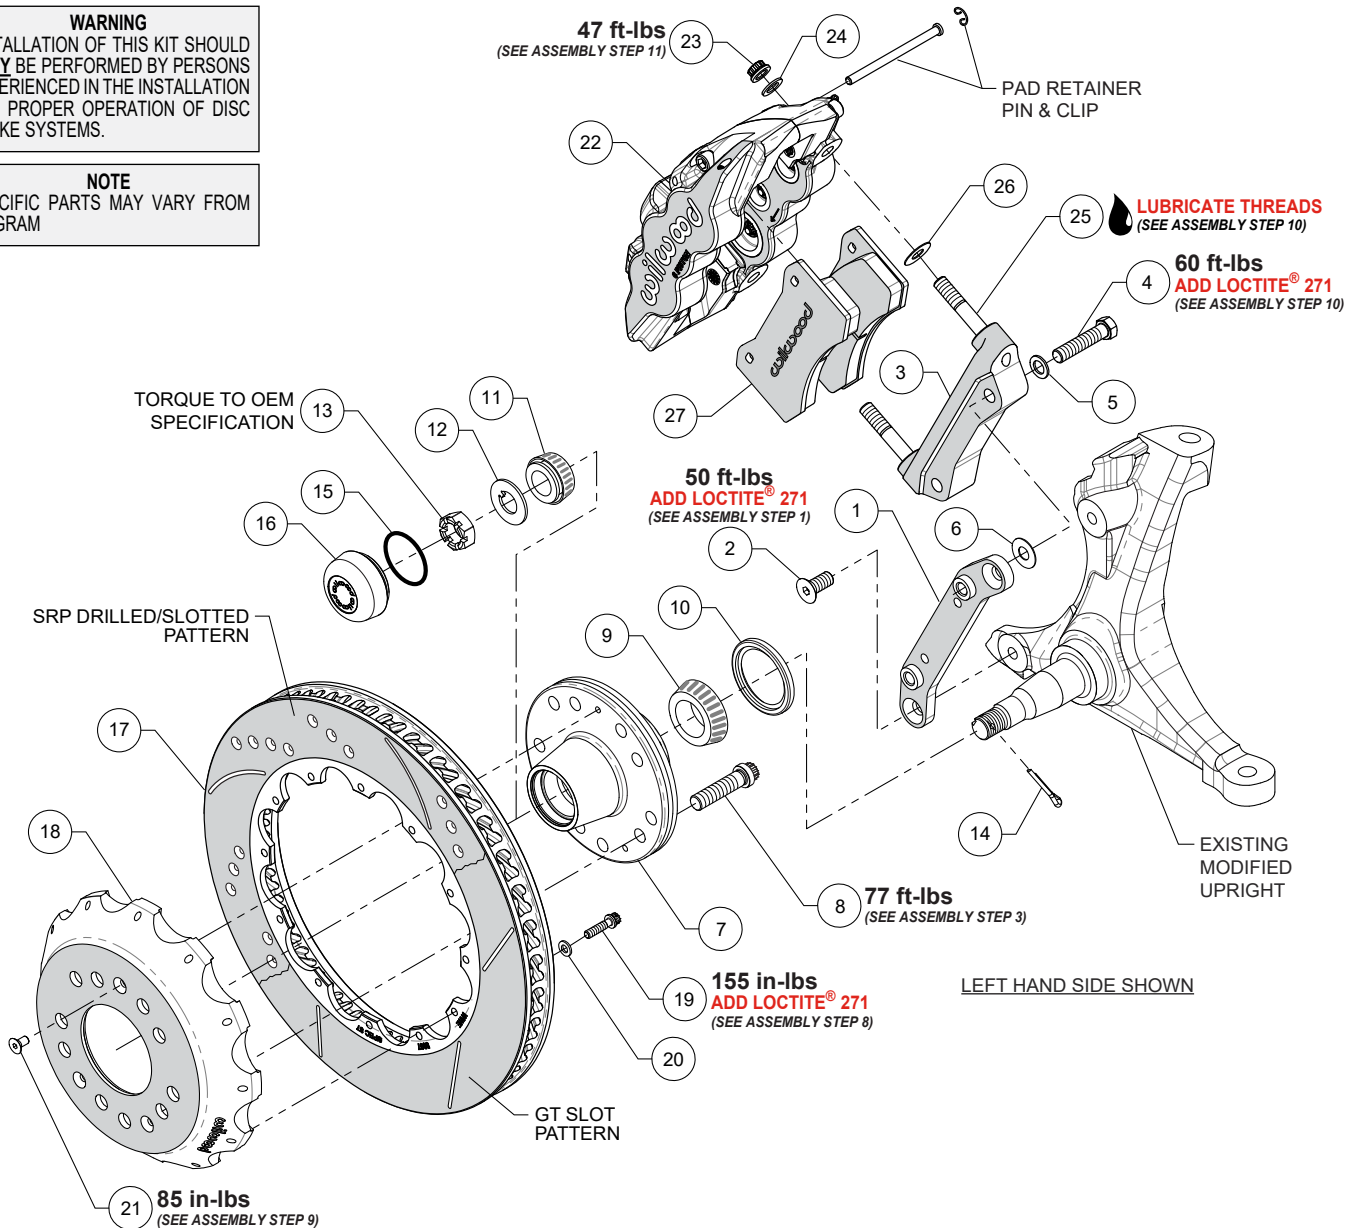

Figure 2. Typical Installation Configuration
**NOTE:** Numbers in parenthesis refer to the parts list and Figure 2 on the preceding pages.
**STEP 1** Orient the caliper mounting flat bracket (1) as shown in Figure 2 and install using bolts (2), Photo 1. **NOTE:** Be sure the heads of the caliper mounting flat bracket clinch nuts (1) are facing outward toward the wheel. Temporarily tighten the mounting bolts. **NOTE:** The bracket must fit squarely against the mount bosses on the upright. Inspect for interference from casting irregularities, machining ridges, burrs, etc. After the bracket fitment has been checked, remove the bracket mounting bolts (2) one at a time, apply red *Loctite*® 271 to the threads and torque to value shown in Figure 2.
**STEP 2** The radial mount caliper bracket (3) should initially be installed with clean, dry threads on the mounting bolts. Orient the bracket, as shown in Photo 2, and install using bolts (4) and washers (5). Initially place one .030" thick shim (6) on each bolt between the radial mount caliper bracket (3) and caliper mounting flat bracket (1), Figure 2. Temporarily tighten the mounting bolts. Later, after the
**STEP 3** Install wheel studs (8) into the hub (7), Photo 3. Torque to value shown in Figure 2. **NOTE:** There are two five lug patterns in the hub (5 x 4.75 and 5 x 5.00). Ensure the correct hub stud pattern is being used to fit the wheel application.
**STEP 4** Pack the large inner bearing cone (9) with high-temp disc brake bearing grease (available from your local auto parts store) and install into the backside of the hub (7), Figure 2.
**STEP 5** Install the grease seal (10) by pressing into the backside of the hub (7), flush with the end of the hub, Photo 4.
**STEP 8** Orient the rotor (17) and the hat (18) as shown in Figure 2 and Photo 6. Attach rotor to hat using bolts (19) and washers (20). Apply red *Loctite*® 271 to the bolt threads and torque to value shown in Figure 2 using a criss-cross pattern. For an added measure of security, the bolts may be safety wired using standard 0.032 inch diameter stainless steel safety wire as shown in Figure 5. Refer to Wilwood's data sheet DS-386 (available at [www.wilwood.com/Pdf/DataSheets/ds386.pdf](http://www.wilwood.com/Pdf/DataSheets/ds386.pdf)) for complete safety wire installation instructions.
**STEP 9** Slide the rotor/hat assembly (17 and 18) onto the hub (7) taking care to align the small countersunk holes in the hat with the small threaded holes in the hub, Photo 7. **NOTE:** The hat must fit flush against the hub face or excessive rotor run out may result. Install three flat head hex drive screws (21) through the small holes in the hat, Photo 8, and torque to value shown in Figure 2.
**STEP 10** **NOTE:** This kit contains distinct right and left hand calipers that must be mounted in a specific direction, as described in below. Lubricate the caliper mounting studs (25) with lightweight oil. Initially place one .030" thick shim (26) on each stud between the caliper and the radial mount caliper bracket, as shown in Figure 2 and Photo 9. Mount the caliper (22) onto the radial mount caliper bracket (3) using lock nuts (23) and washers (24), Figure 2. Ensure that the caliper is mounted so the largest pistons are at the rotor exit end of the caliper, in relation to the forward direction of rotor rotation. Temporarily tighten the lock nuts and view the rotor through the top opening of the caliper. The rotor should be centered in the caliper, Photo 10. If not, adjust by adding or subtracting .030" shims (6) as necessary between the radial mount caliper bracket (3) and the caliper mounting flat bracket (1). Always use the same amount of shims on each of the two mounting bolts (4). Once the caliper alignment is correct, remove the radial mount caliper bracket bolts (4) one at a time, apply red *Loctite*® 271 to the threads, and torque to value shown in Figure 2.
**STEP 11** Remove the caliper (22), then remove the two pad retaining pins from the caliper by carefully popping out the pin retaining clips and sliding out the pins, Figure 2. Insert the brake pads (27) into the caliper from the bottom, Photo 11. With the friction material facing the rotor, secure the brake pads in place with the pad retaining pins and clips. Reinstall the caliper onto the caliper mounting bracket and temporarily tighten the lock nuts (23). Check that the top of the brake pad is flush with the outside diameter of the rotor, Photo 12. If not, adjust by adding or subtracting shims (26) between the caliper and the bracket. After the caliper pad height is set, torque the caliper lock nuts (23) to value shown in Figure 2.